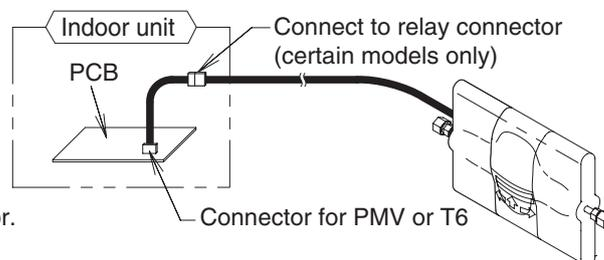

Fig. 2-18
- (4) Open the electrical component box. From the control PCB, disconnect the connector to the indoor unit internal electronic expansion valve. (This step is unnecessary if the model does not have an electronic expansion valve.)
- (5) Connect the external electronic expansion valve. (Fig. 2-18)